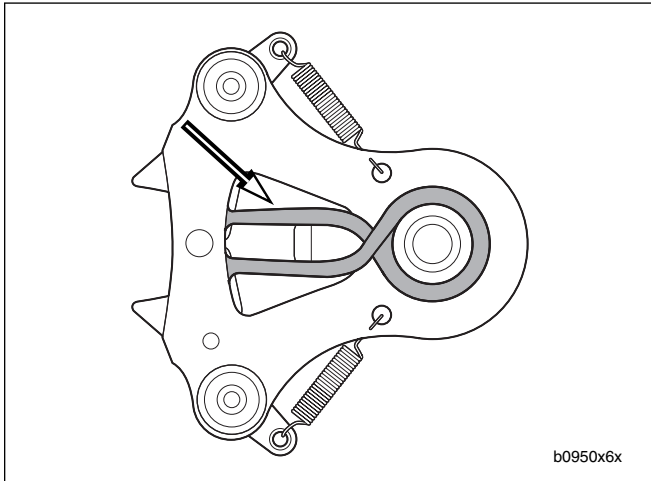

Figure 6-94. Shifter Shaft Return Spring
1. See Figure 6-94. Correctly install shifter return spring onto the reverse side of the shifter shaft assembly before placing shaft in left crankcase half.